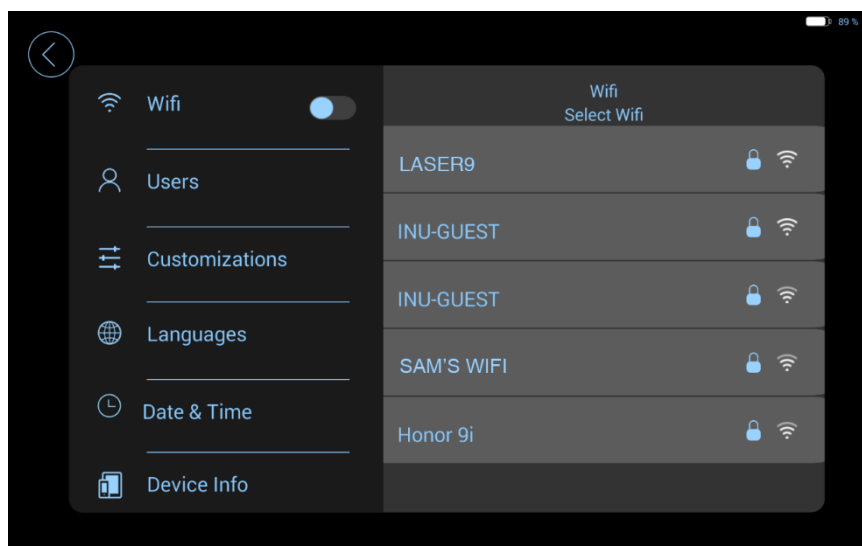

Figure 14. Wi-Fi List Page
14. Click "Wi-Fi" to enter the Wi-Fi list page (Figure 14). Click "Wi-Fi" and click "ON"